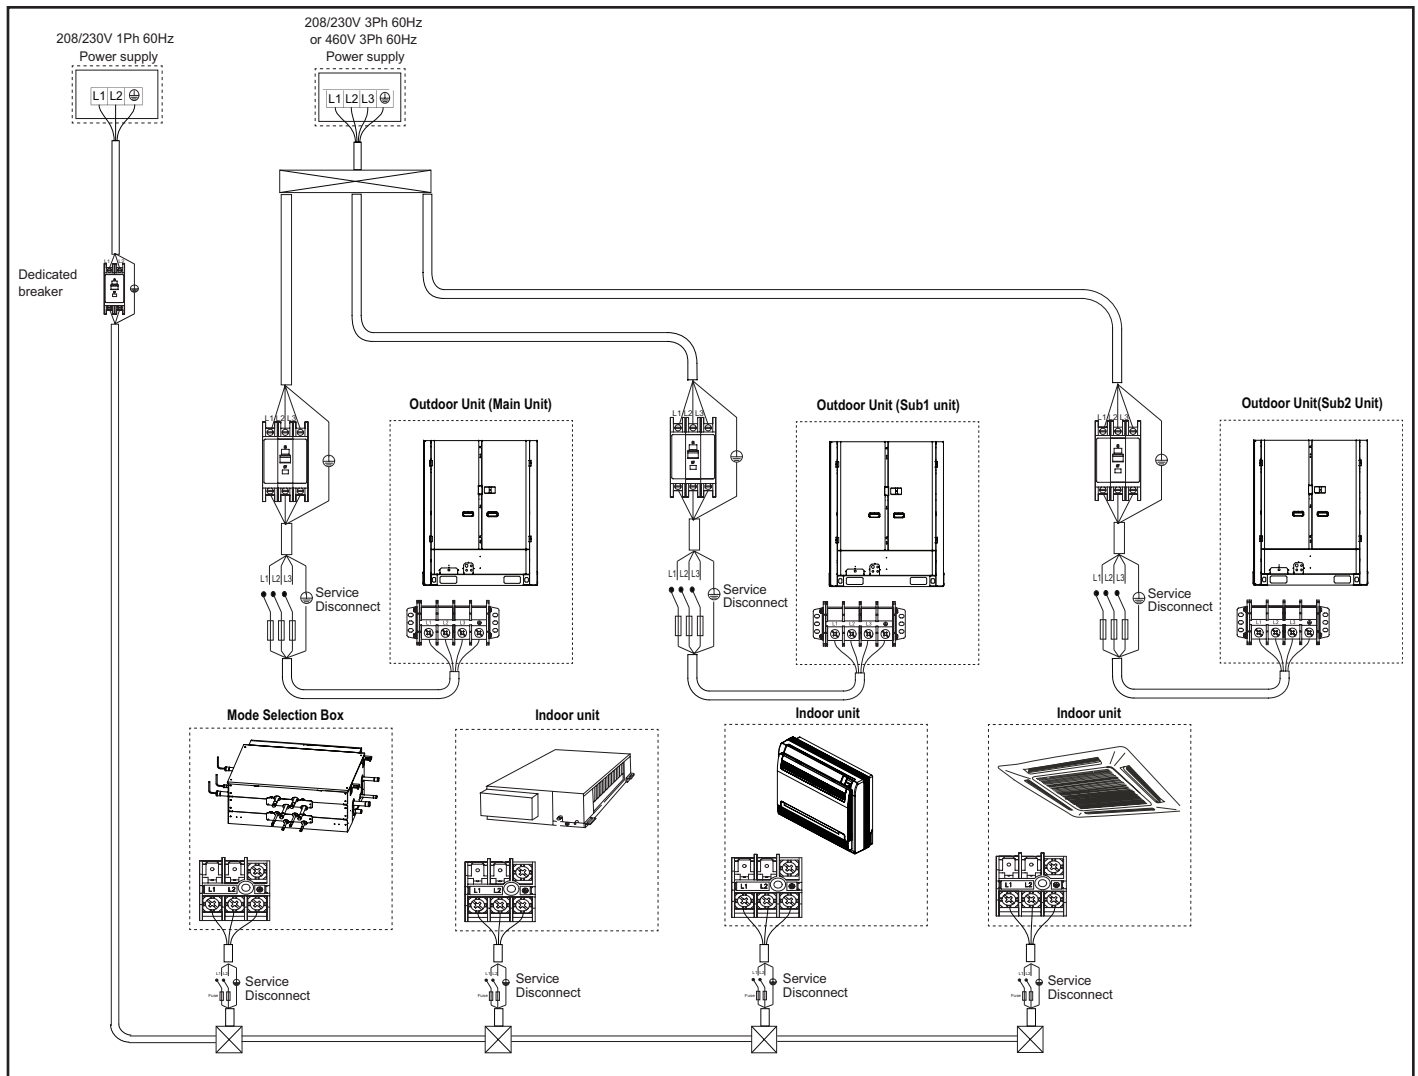

Figure 12. Typical Power Wiring Diagram (VRF Heat Recovery System Shown)
6. Locate the terminal strip in the control box. Connect the power wiring (sized per NEC/CEC and local codes) and communications cable (two-conductor shielded cable) per Figures 12, 13, and 14. Refer to unit nameplate for rated voltage.